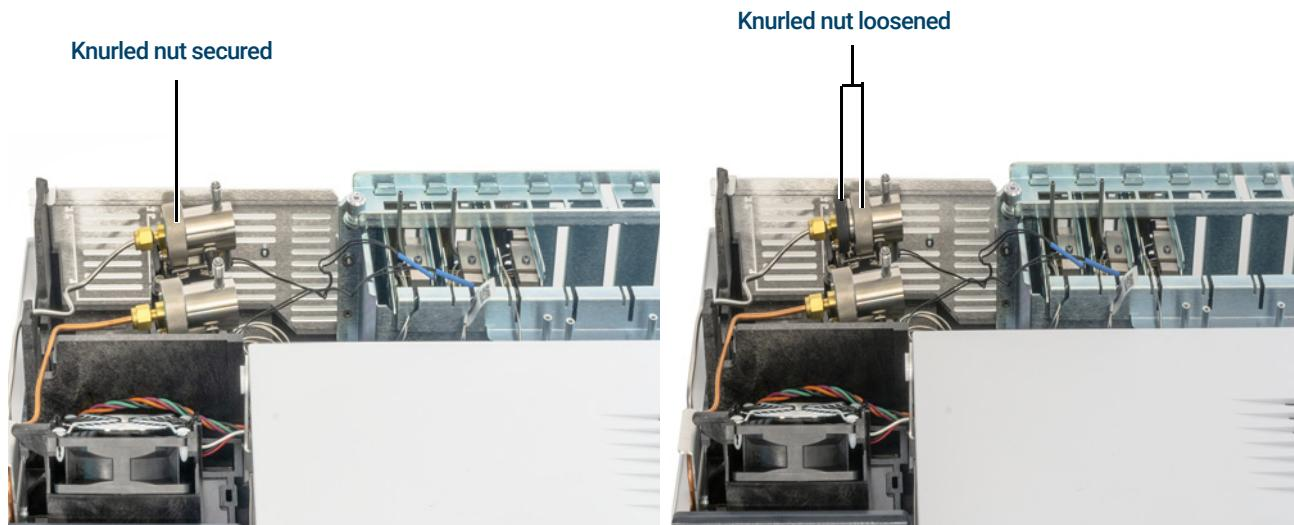

Figure 34. Loosen knurled nut
- 4 Completely loosen the knurled nut that secures the split vent trap in place as shown in Figure 34.